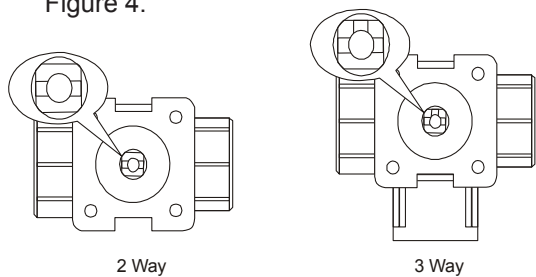

Figure 4: Positioning the Valve Stem
1. Turn the valve stem to the position outlined in Figure 4.